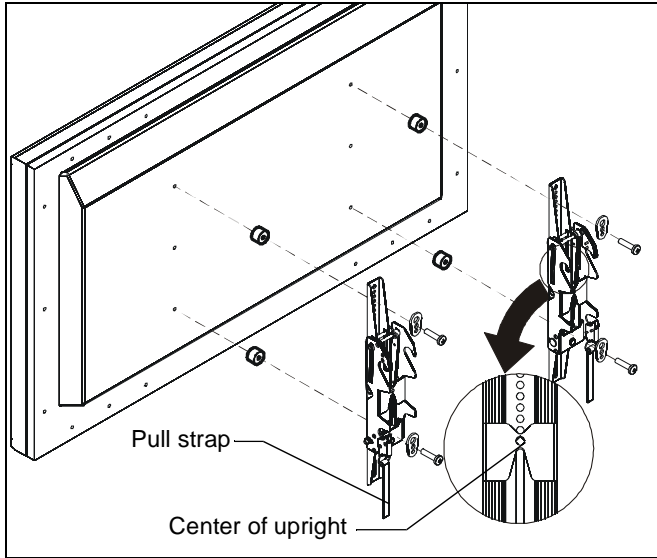

Figure 5
1. Align the center of the pull-out uprights (U and V) with center of screen. (See Figure 5)
2. Select correct screws, spacers (if necessary) and universal washers from the hardware bag (A-N) and attach uprights (U and V) to back of screen. (See Figure 5)